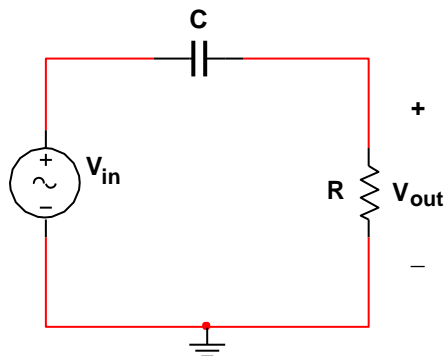

Figure P.1 – Series RC Circuit
1. **Compute** the equivalent impedance Z_{TH} for the circuit in **Figure P.1**.